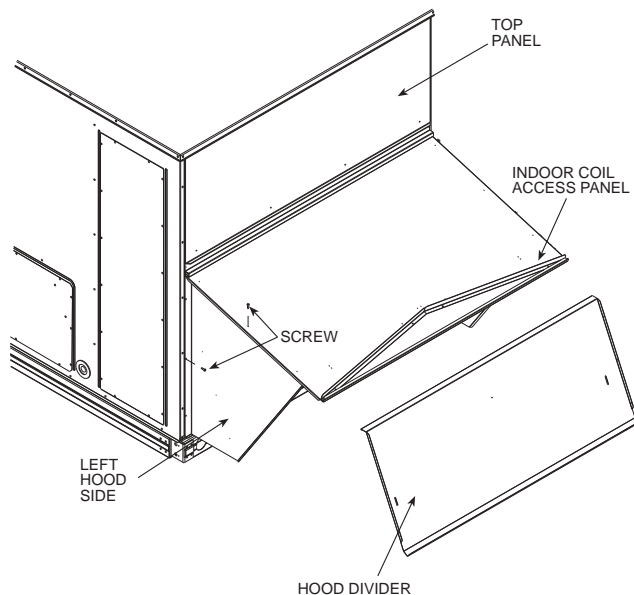

Fig. 22 — Economizer Hood Construction
2. Swing out indoor coil access panel and insert the hood sides under the panel (hood top). Be careful not to lift the panel too far as it might fall out. Use the screws provided to attach the hood sides to the hood top. Use screws provided to attach the hood sides to the unit. See Fig. 22.
4. Insert the hood divider between the hood sides. See Fig. 22 and 23. Secure hood divider with 3 screws on each hood side. The hood divider is also used as the bottom filter rack for the aluminum filter.